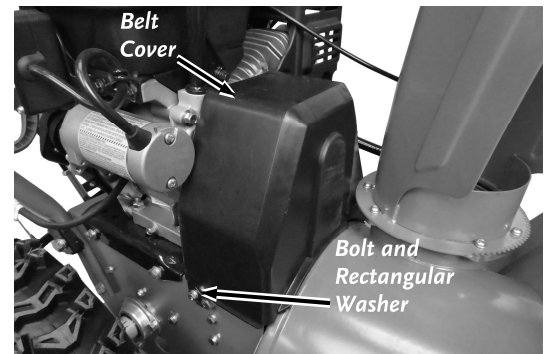

Figure 51
1. Remove the two Bolts and rectangular Washers from the Belt Cover using a 10mm Wrench and remove the Belt Cover (**Figure 51**).